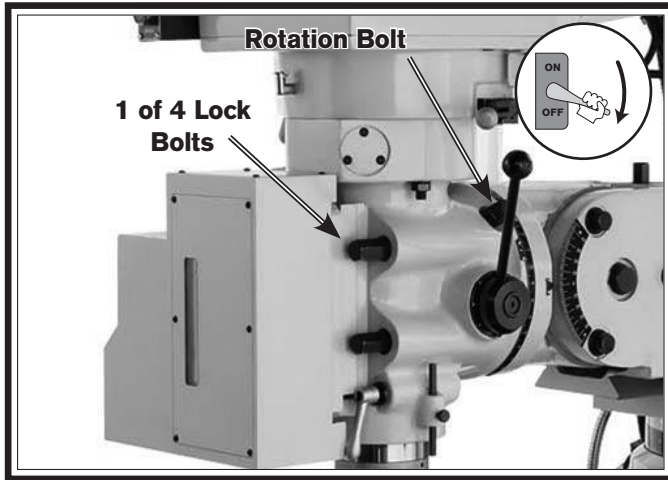

Figure 22. Head rotating controls.
2. Loosen four rotation lock bolts on face of head shown in **Figure 22**.